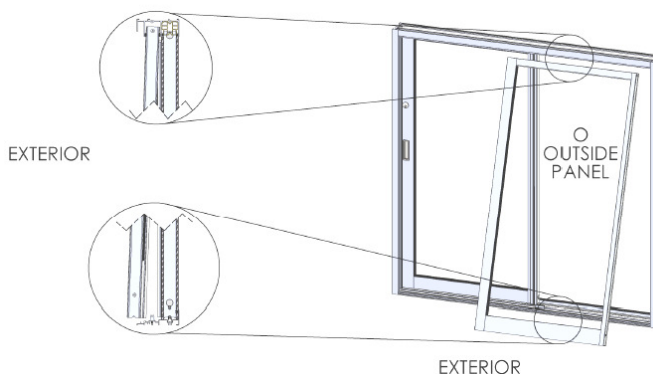

Figure 14:
4. Insert the fixed panel (weather-strip facing inside) into the center channel of the head, as far to the sliding side of the frame as possible. Push up and swing the bottom of the panel in and down so that the bottom rail rests in the groove of the sill (Figure 14).